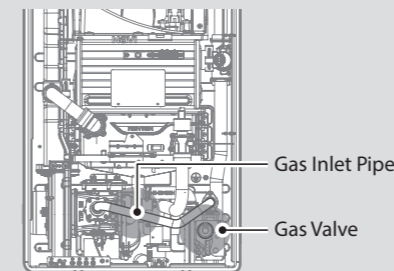

Figure 2. NHB-H Series Internal Components
- With the internal components exposed, locate the gas inlet pipe and the gas valve, as shown in Figure 2.